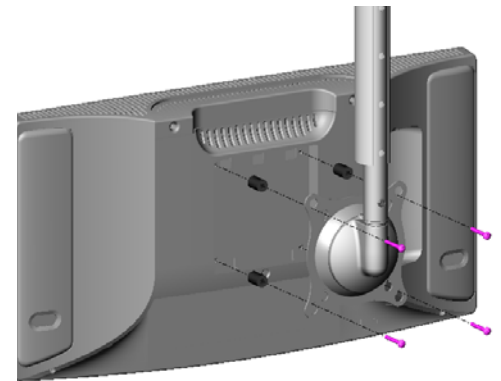

Figure 4. Install 75mm x 75mm or 100mm x 100mm Recessed Mount Display on Bracket
1. Place four 1/2" X 3/8" Nylon spacers or four 1/2" X 3/4" Nylon spacers, as necessary, over the mounting holes of your display (see Figure 4).